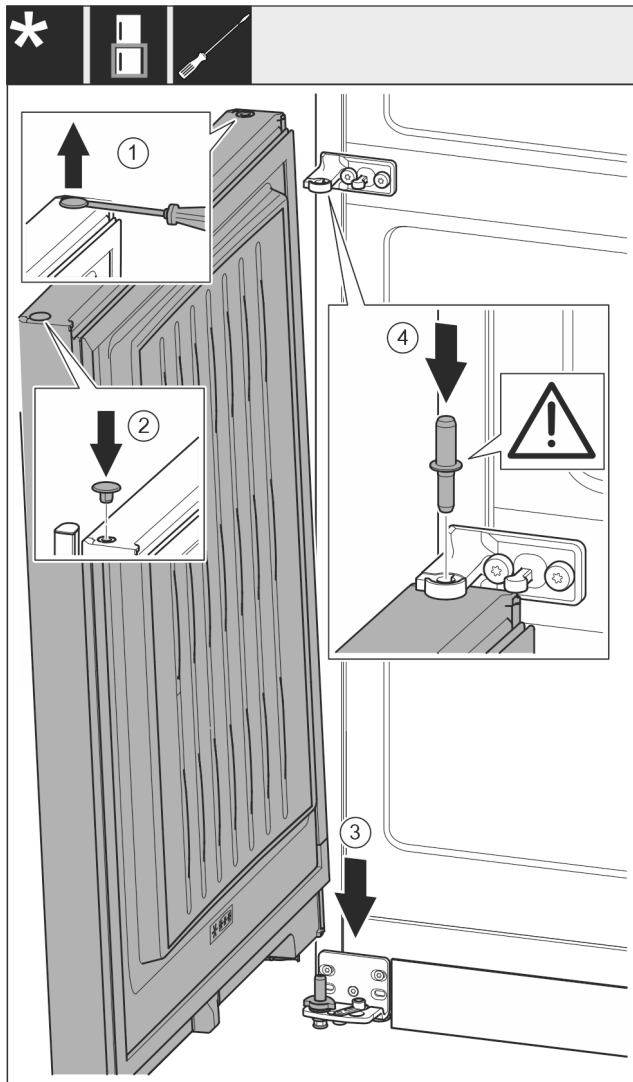

Fig. 22
- ▶ Carefully lift the plug Fig. 22 (1) with a slotted screwdriver and pull it out.
- ▶ Reinsert the plug Fig. 22 (2) on the other side of the door.
- ▶ Fit the door Fig. 22 (3) onto the lower bearing pin from the top.
- ▶ Insert the center bearing bolt Fig. 22 (4) through the center swap bearing block into the bottom door. In the process, make sure that the latching cam shows towards the rear.